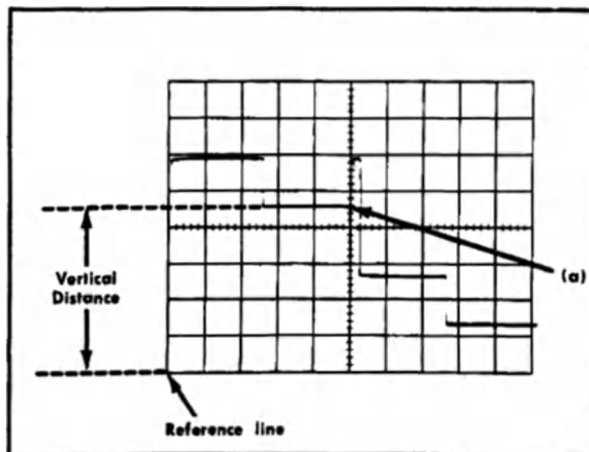

Fig. 2-11. Measuring instantaneous DC voltage with respect to a reference.
9. Measure the distance in divisions between the reference line and the point on the waveform at which the DC level is to be measured. For example, in Fig. 2-11 the measurement is made between the reference line and point A.
Example: As an example of this method of measurement, assume that the vertical distance measured is 4.6 divisions (see Fig. 2-11) and the waveform is above the reference line using a 10× attenuator probe and a VOLTS/DIV switch setting of 2.